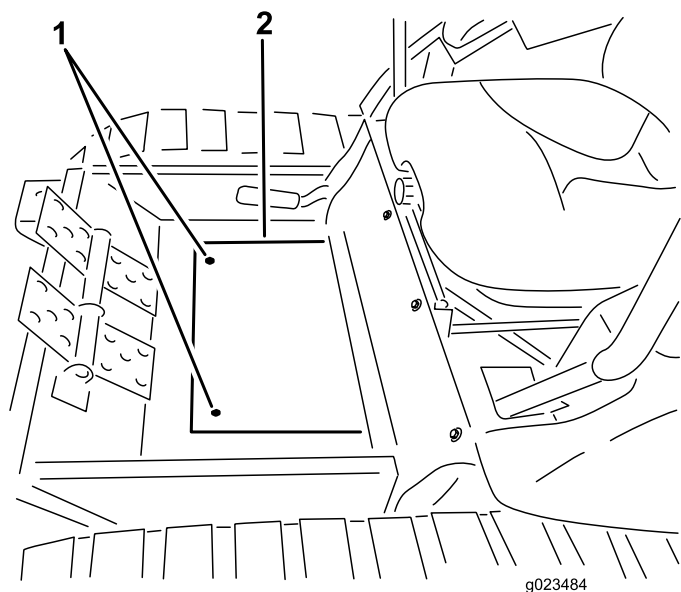

Figure 34
28. Install the winter frame floor-plate cover to the floor with the screws previously removed (Figure 34).